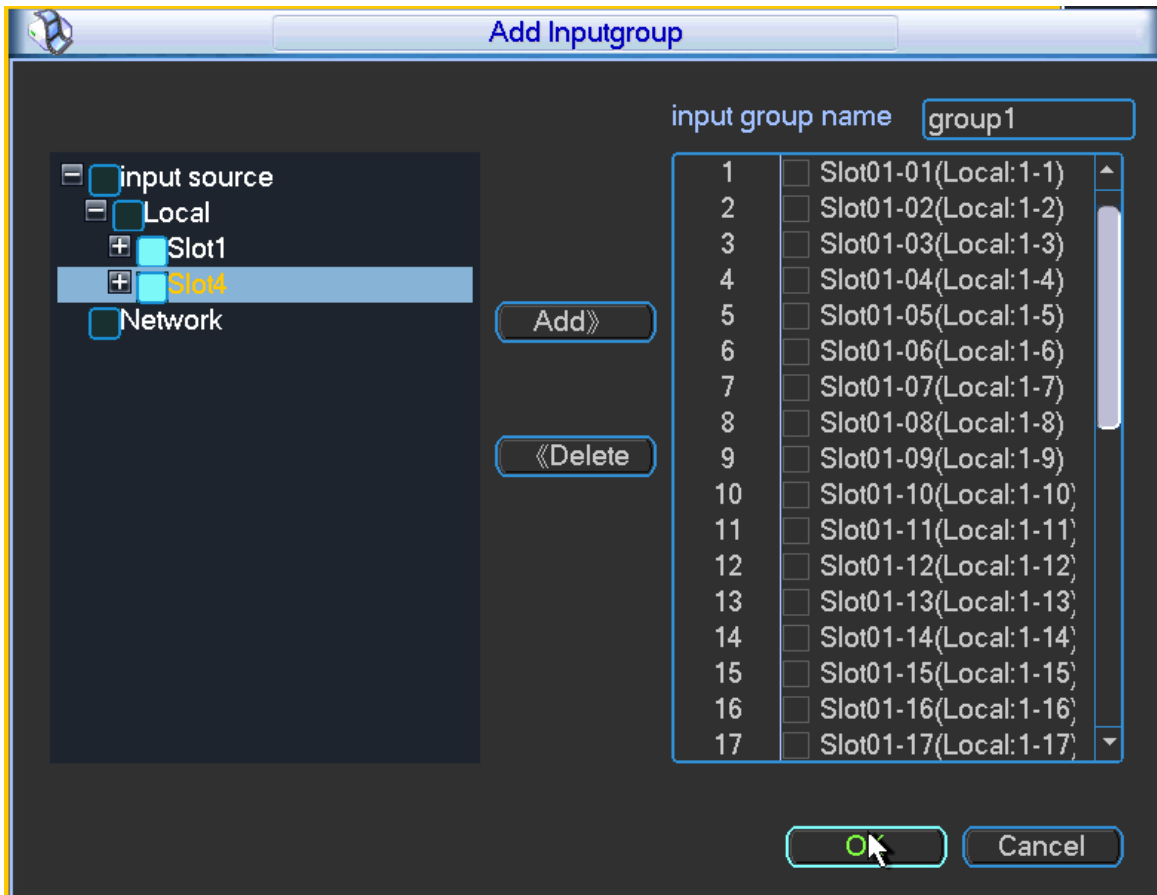

Figure 3-12
Step 4 Fill in "Input Group Name" and click "OK", as shown in Figure 3-12.